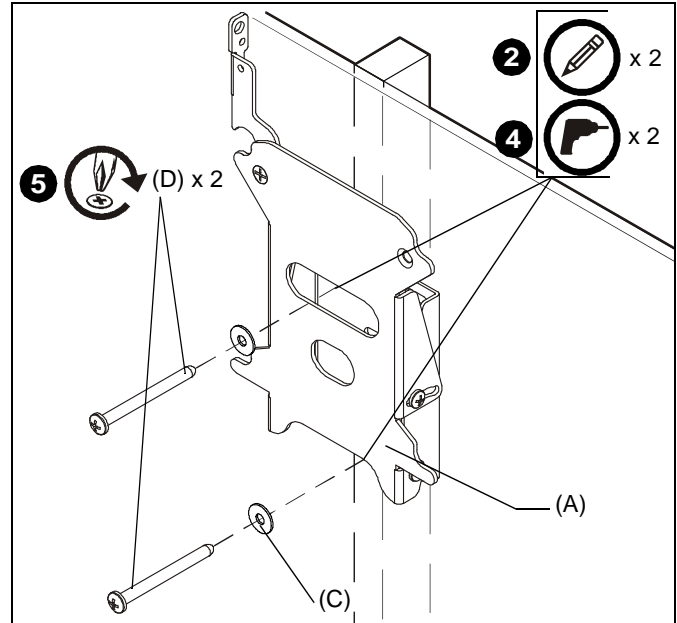

Figure 2
5. Fasten FPM to wood stud using two #10 x 2-1/2" Phillips head screws (D) through two #10 washers (C), FPM (A), and drywall (not shown) and install into pilot holes. (See Figure 2)